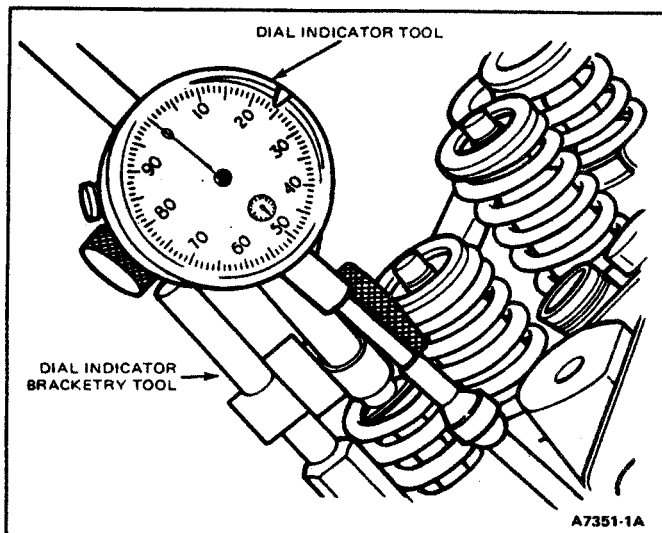

FIG. 21 Camshaft Lobe Lift Test
4. Make sure the push rod is in the valve tappet socket. Install a dial indicator D78P-4201-G (or equivalent) so that the indicator ball socket adapter Tool 6565-AB is on the end of the push rod and in the same plane as the push rod movement (Fig. 21).